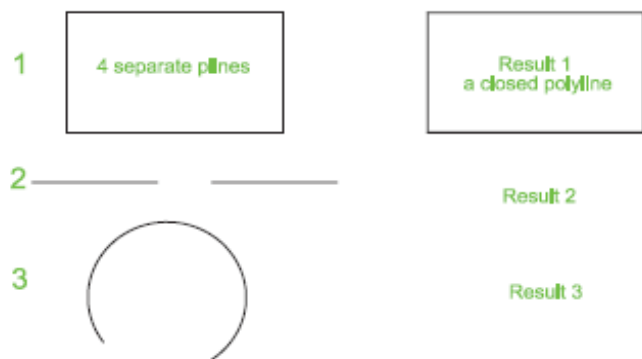

Fig. 5.38 Examples – Join
Examples – **Join** (Fig. 5.38)
1. Construct a rectangle from four separate planes – drawing 1 of Fig. 5.38 ; construct two lines – drawing 2 of Fig. 5.38 and an arc – drawing 3 of Fig. 5.38 .
The results are shown in Fig. 5.38 .